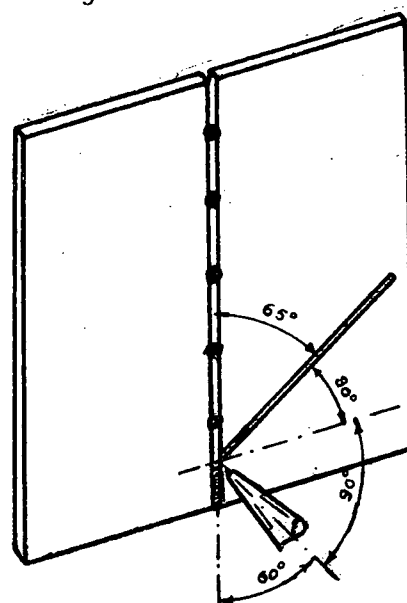

Fig. 1
- a) Incline the tip and the filler metal (fig. 1).